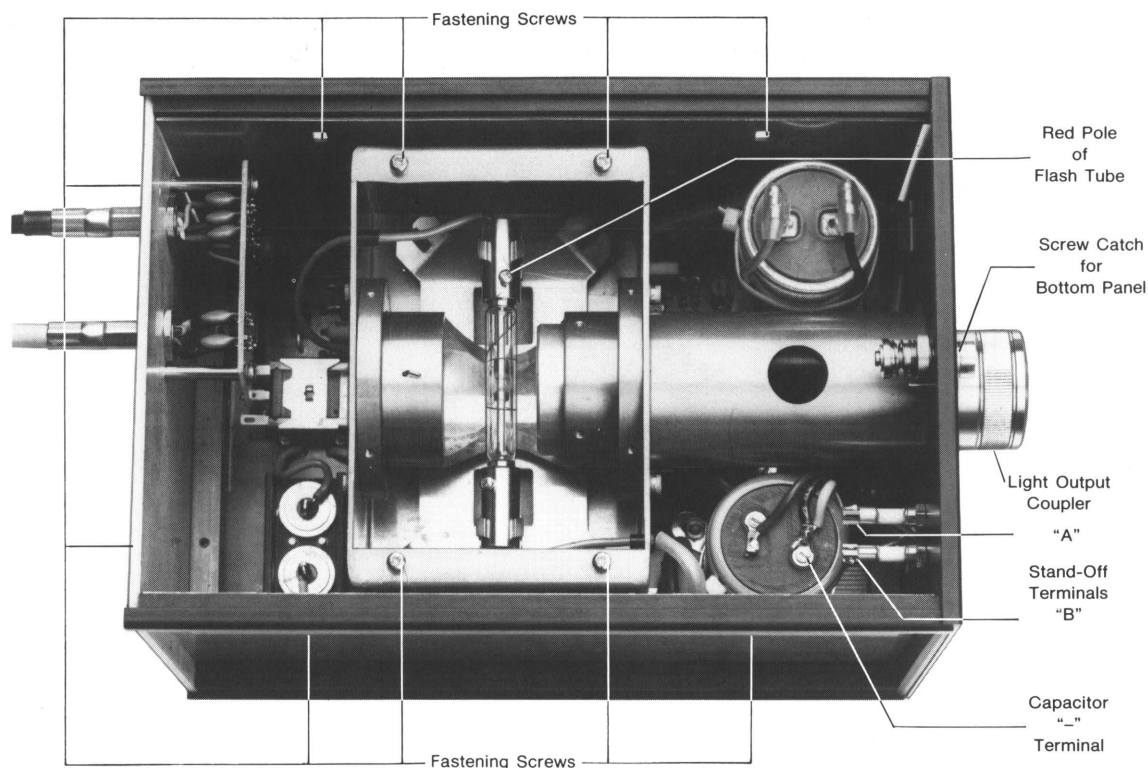

Fig. 5.2. Replacement of Flash Tube Assembly VS 1006 with the Fibre-Optic Source Type 4915
3. Remove the lid of the screened compartment inside the 4915. This is fastened by a total of six screws, two near the bottom of the rear panel and two on each slide panel of the compartment. See Fig. 5.2.
4. Carefully holding the insulated handle of a screwdriver with plain metal shaft, interconnect the gold-plated stand-off terminal "A" to the negative terminal of the capacitor shown in Fig. 5.2 for approximately 5 seconds and then repeat with the stand-off terminal "B". This will discharge both storage capacitors of the 4915, making the flash tube safe to remove without risk of electric shock.
8. Fit the new flash tube with the terminals removed in item 6, noting which end of the tube includes a red mark. Before tightening the screws for the terminals, wind the loose end of the tubes wire wrapping around the screw at the red end of the tube. Clip off the surplus wire and check that the wire wrapping overlaps both electrodes inside the tube.